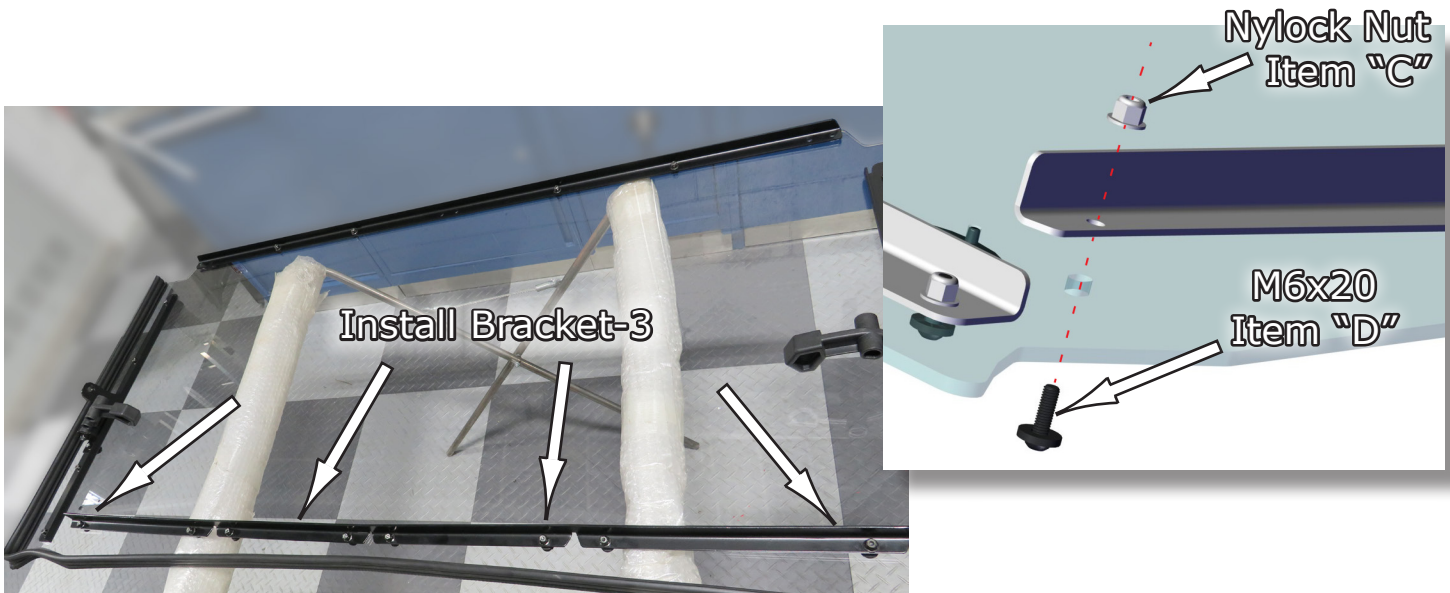

Fig.2
2. Next, install the Support Bracket-3 from your kit. It will be a little curved so the windshield conforms to it. You will install it using the M6x20 Seal Washer Bolt, **Item "D"** and M6 Nylock Nuts, **Item "C"** also provided in your kit. See **Fig.2**.